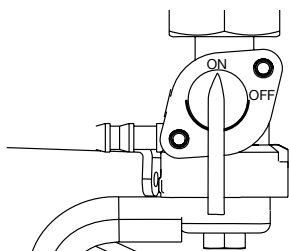

Figure 8 - Fuel Shut Off - ON
6. Move the fuel shut off valve to the **ON** position (see Figure 8 below).